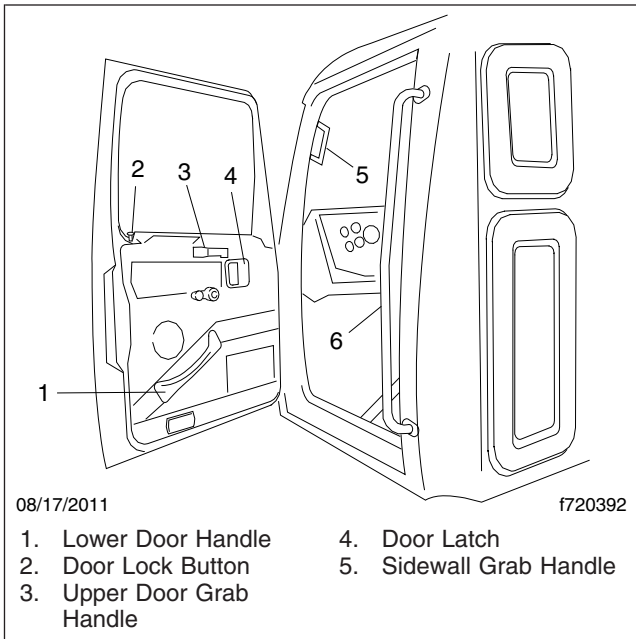
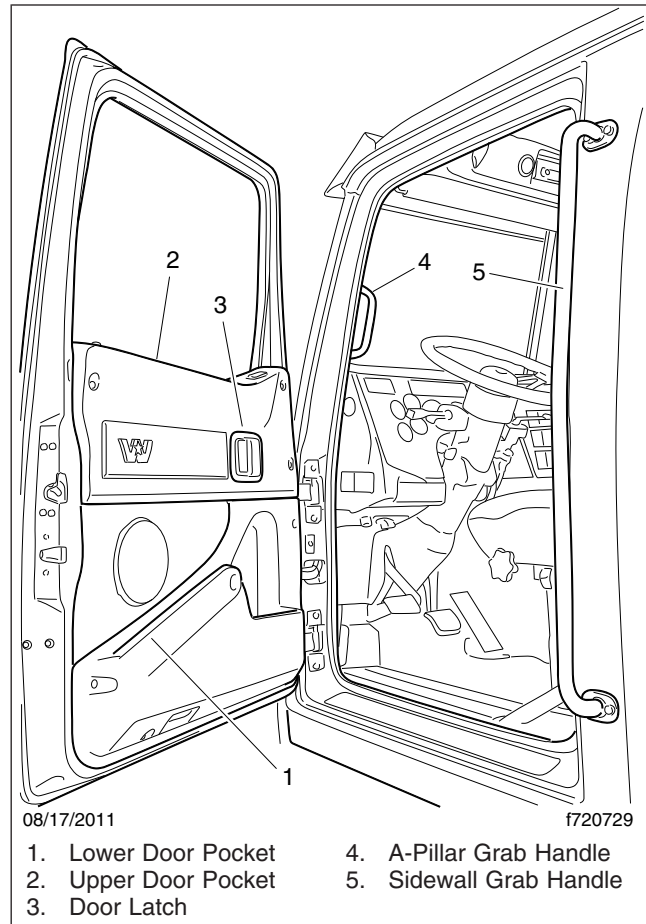

Fig. 2.4, Driver-Side Cab Access (vehicles built before November 7, 2011)
Fig. 2.5, Driver-Side Cab Access (vehicles built November 7, 2011 and later)
2. Grasp the sidewall grab handle with your right hand. See Fig. 2.4 or Fig. 2.5.